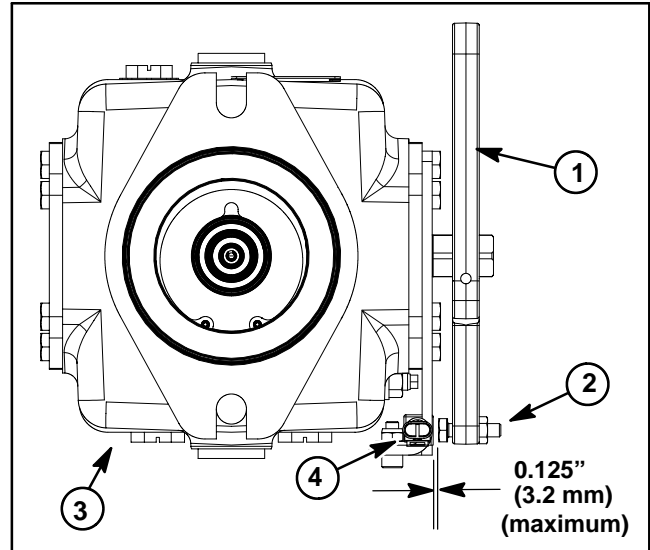
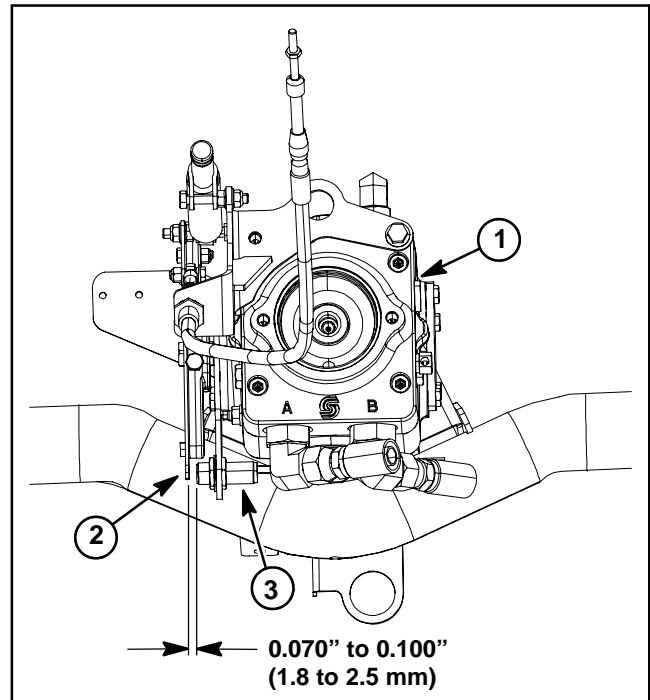

Figure 17
Figure 18
The traction neutral switch is a normally open proximity switch that closes when the traction pedal is in the neutral position. The switch mounts to a bracket on the traction pump. On machines with serial numbers below 310000000 (Fig. 17), the sensing element for the traction neutral switch is a cap screw on the pump control arm. On machines with serial numbers above 310000000 (Fig. 18), the sensing element for the traction neutral switch is the traction lever bracket that is secured to the pump control arm.
2. For machines with serial numbers below 310000000 (Fig. 17), adjust traction neutral switch as follows:
3. For machines with serial numbers above 310000000 (Fig. 18), adjust traction neutral switch as follows: